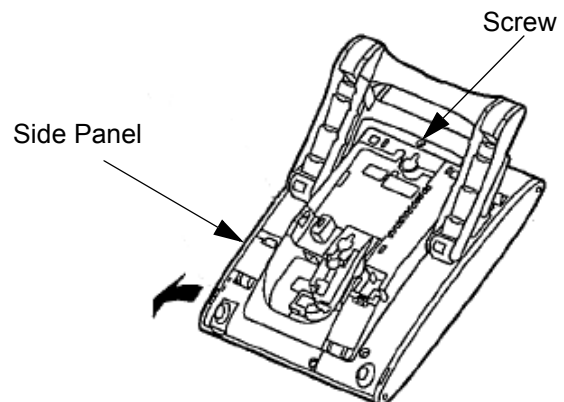

Figure 5-96 Remove Side Panel from Multiline Terminal
3. Remove the screw (refer to Figure 5-96 Remove Side Panel from Multiline Terminal on page 5-92).